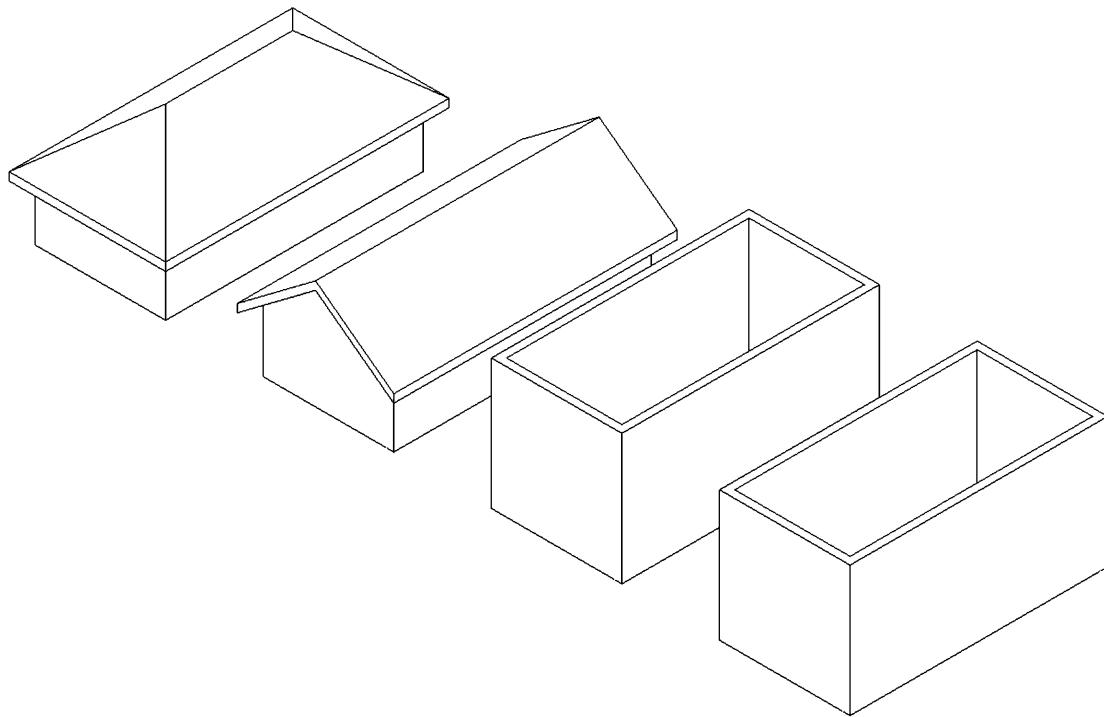

FIGURE 8-1.7 3D view – gable roof
25. Switch to the **3D** view (Figure 8-1.7).